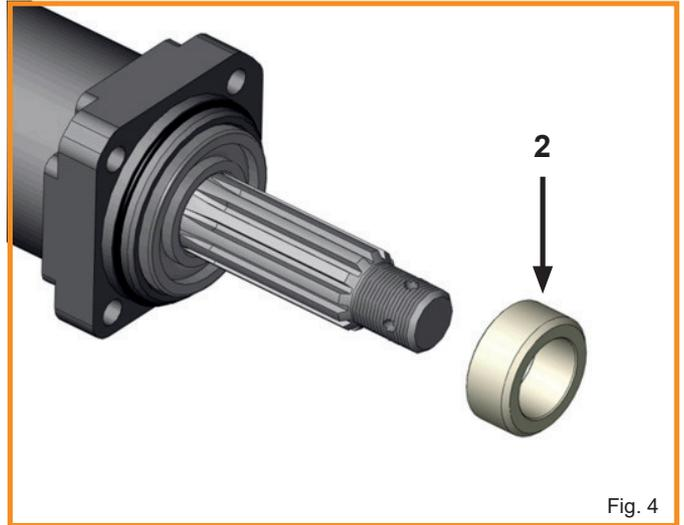

Fig. 4
- Slip the spacer (Pos.2, Fig.1) on the axle shaft as shown in the picture Fig.4.